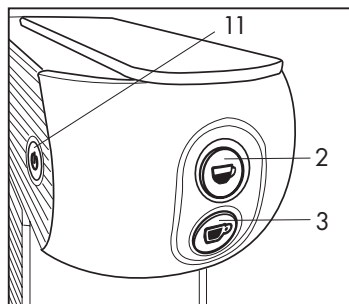

Fig. 11
- Check that there are no capsules in the machine and turn it on with the main switch (11).
- Close the small cup support (10) and place a large empty cup under the dispensing spout (4).
Big cup: Press and hold the button (3). The machine will start delivering water. Once the desired water level is reached release the button (3). The machine will then stop delivering water and the desired quantity will be memorized for future dispensing. **(Fig.11)**
Small cup: Press and hold the button (2). The machine will start delivering water. Once the desired water level is reached release the button (2). The machine will then stop delivering water and the desired quantity will be memorized for future dispensing. **(Fig.11)**